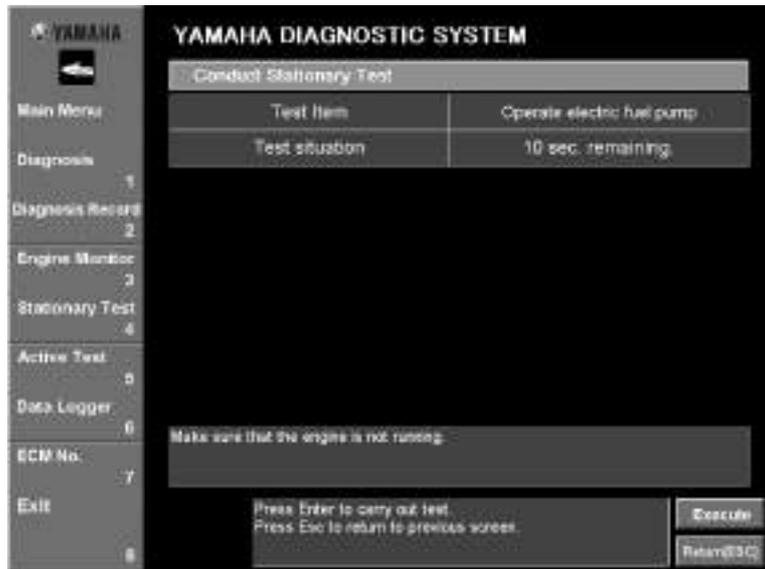

Fig. 53
2. Click the **Execute** button or press the Enter key on your keyboard. (Fig. 53)